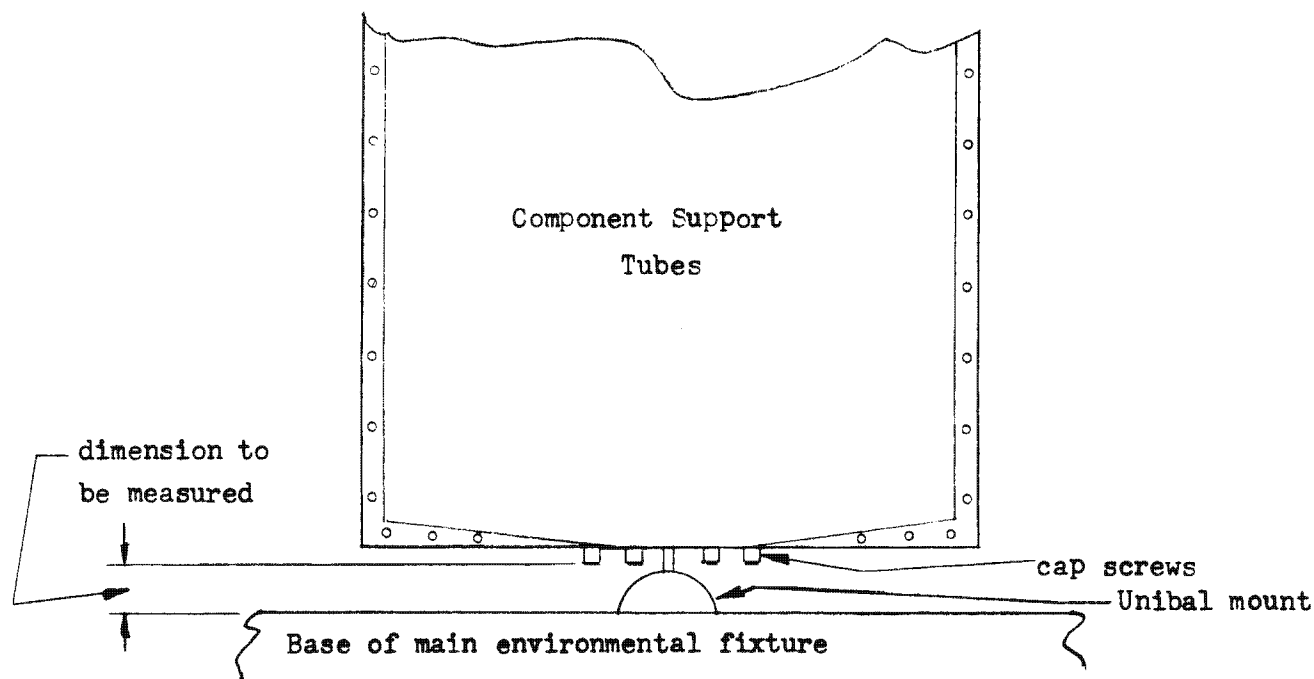

FIGURE 1
5.2.1 Using gage blocks or adjustable parallels, measure the Minimum distance between the six screw heads on the end of the component support tube and the center face of the Main Environmental Fixture, as shown in Figure 1. Subtract the measured value from 210.550 and enter the result on the data sheet.